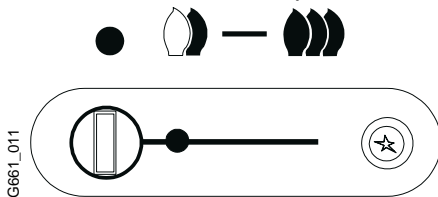

Fig. 8
- g) Check the dynamic inlet gas pressure. For Natural Gas the inlet pressure should be 20.0 mbar and for LPG the pressure should be 28.0 mbar (Butane) or 37.0 mbar (Propane). If the pressure is not correct then check the gas supply to the appliance. If the pressure is correct then turn off the hot water tap and move the slider to the off position, see fig. 8.